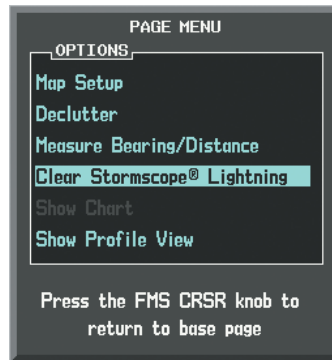

Figure 6-122 Navigation Map Page Options Menu
- 2) Select 'Clear Stormscope® Lightning' (Figure 6-122).